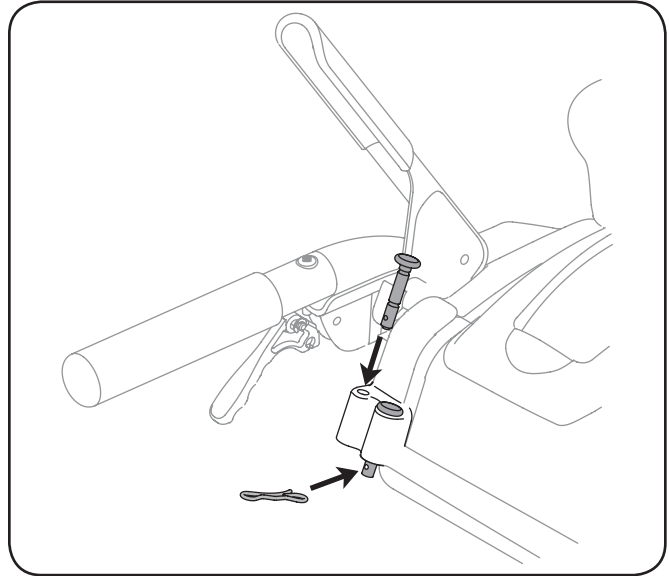

**Figure 3-5**
4. Check that all cables are properly routed through the cable guide on top of the engine. See Fig. 3-5.
A pair of replacement auger shear pins and bow tie cotter pins are included with your snow thrower. Store them in your snow thrower's dash panel until needed. See Fig. 3-5.